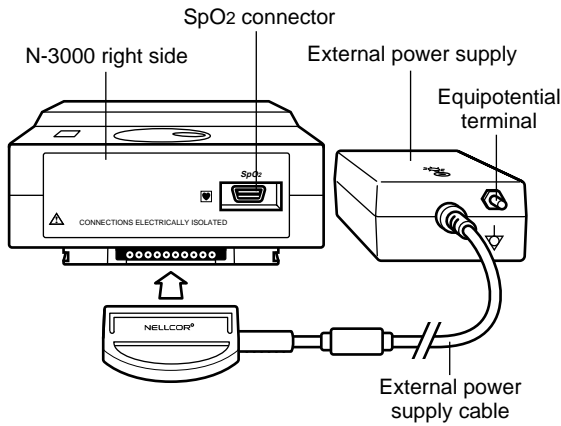

Figure 8: Connecting to the SPS External Power Supply
3. Plug the SPS power supply cable into the socket on the right side of the N-3000. The connector will engage only one way, with the cable toward the rear of the monitor as illustrated in Figure 8.